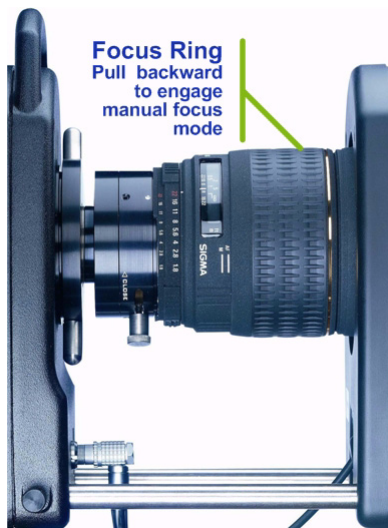

Figure C-5: Camera focus ring
- Visible Red: the white mark, as shown in Figure C-5.